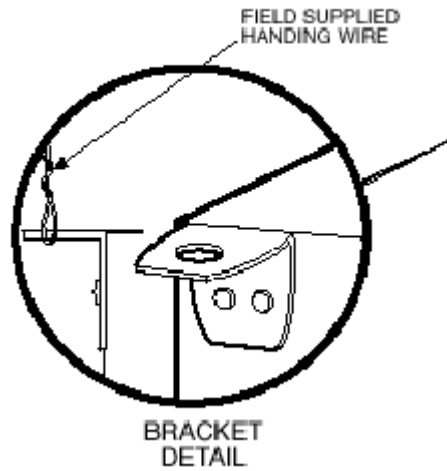

Figure 3 – Unit Suspension Bracket
**UNIT SUSPENSION** — See Fig. 3 for unit suspension details.
2. Unit with factory-installed brackets shown in Fig. 3.